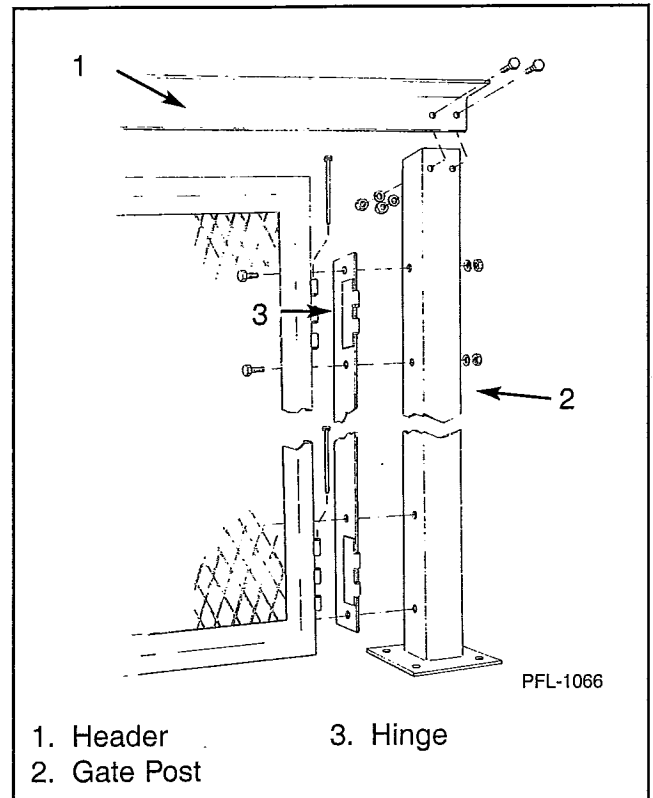

Figure 2
2. Place the angle iron "header" at the top of the gate posts and bolt in position with hardware provided. See Figure 2.
3. Place the gate panels in position between the gate posts and hinge bars. See Figure 2.